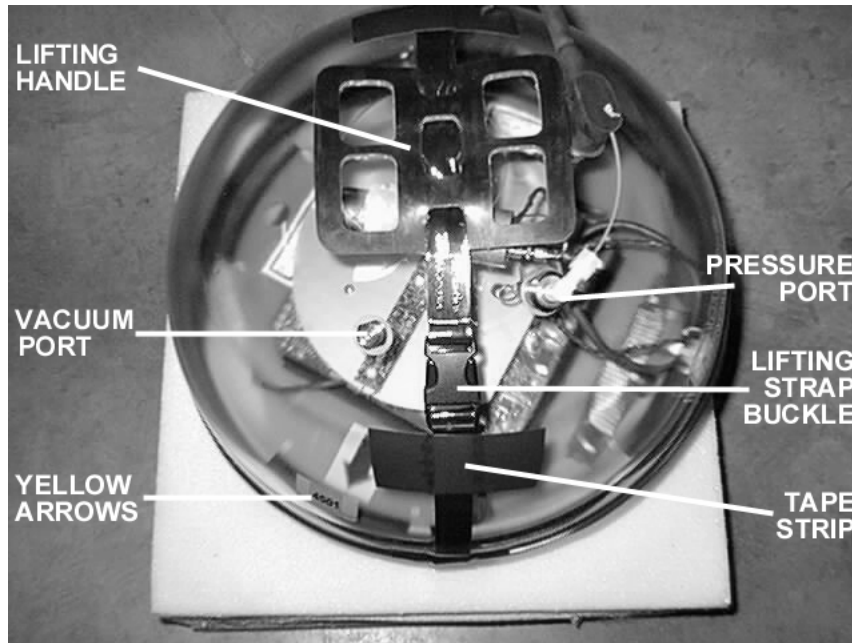

Figure 7-1 IES Sphere Assembly
17. Install the plastic belt and rubber handles at right angles to the equator joint as shown in figure 7-1 (note the position of the lifting handle, buckle and clasp relative to the top of the assembly). Adjust the buckle of the belt so that when the belt ends are joined together the belt is tight around the sphere. Put a tape strip across the lifting strap on both sides of the lifting handle as shown in Figure 7-1 and 7-2. The IES sphere assembly is now ready to be installed into the hard hat.
*Warning: During this assembly procedure, the “upper” hard hat is actually **under** the “lower” hard hat. In the following steps, don’t get the terminology mixed up... “upper” and “lower” refer to names of the hard hats, as shown in Figure 7-1, and not to their position in this assembly process.*